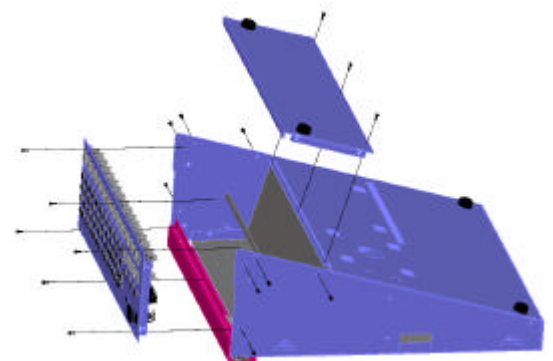

fig. 5
4. Loosen the 8 screws fastening the cover sheet and the connection panel on the sides of the unit (fig. 5) with the Phillips screwdriver type Ph1.
5. Then dismount the connection panel with the 6 screws (fig. 5). Be careful not to unplug the cable connectors by mistake. Then remove the cover sheet via 3 further screws.